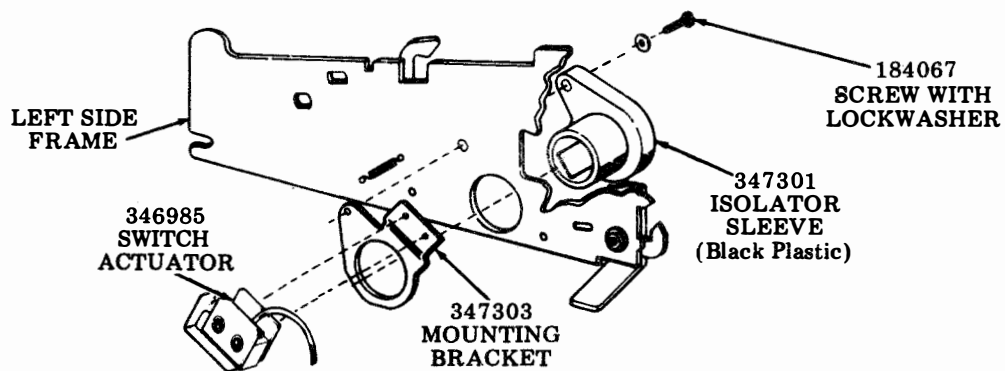

Fig. 7
- ① Assemble the 347304 switch assembly and 345986 insulators to the 347303 mounting bracket (shown in Fig. 7) using the 151354 screws, 153819 lockwasher and 186582 flat washer. Do not tighten screws.